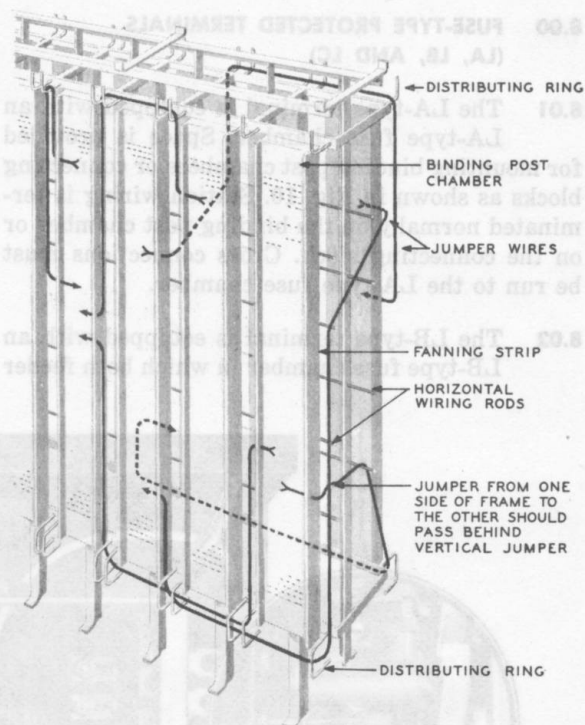

Fig. 9 — Cross-connection Arrangement on a Frame-type Terminal
7.01 Place cross connections on frame-type inside wiring terminals as shown in Fig. 9. This shows a typical arrangement of cross connections on a double-sided frame. Cross connections on single-sided frames are the same as the cross connections between binding posts on the same side of a double-sided frame.